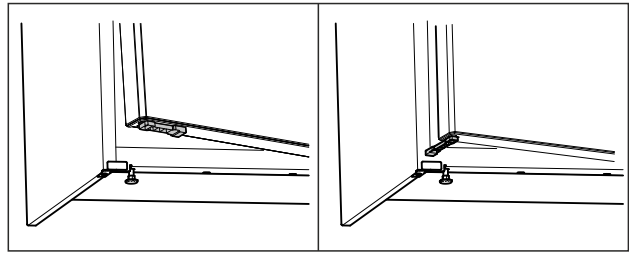

Fig. 62 *
- ▶ Turn door opening limiter by 90°. (see Fig. 62) *